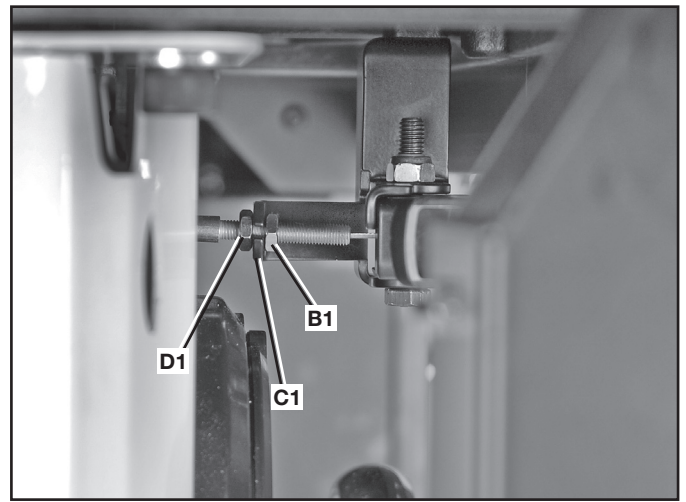

FIG. 51
1. Using a 7/16" open end wrench, move nut (B1) Fig. 51 (located underneath the fence in front of saw) away from saw cabinet.